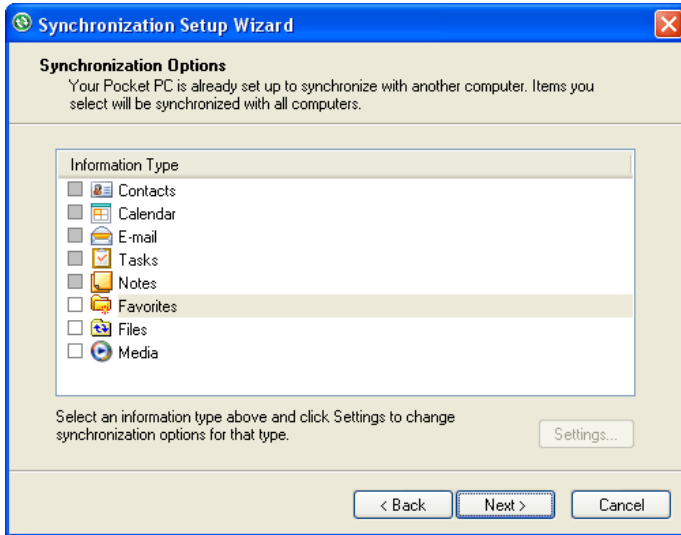

Figure 81. Unmark All Synchronization Options.
- 2) Connect the Detective-EX's DATA port to the computer. If this is the first time the unit has been connected to this computer, Windows XP will display a series of "Found New Hardware" messages indicating a mobile device (e.g., the Detective-EX computer) has been detected. The Synchronization Setup Wizard will start. Follow the wizard prompts for a standard partnership according to step (3).
- 3) On the Synchronization Options screen, **unmark ALL checkboxes, scrolling down as needed to ensure all items have been deselected** (Fig. 81). This will prevent the host computer and trans-SPEC from automatically exchanging files.